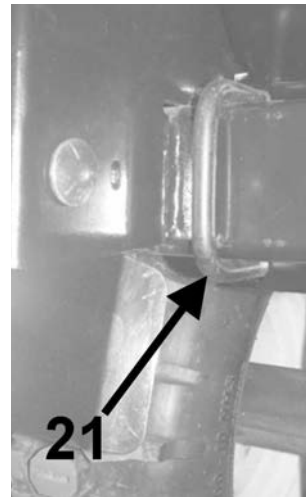

FIGURE 7
12. Loosely secure the Rear Mounting Bracket (**Item 2**) to the machine as shown in **Figure 7 & 8** using hardware: